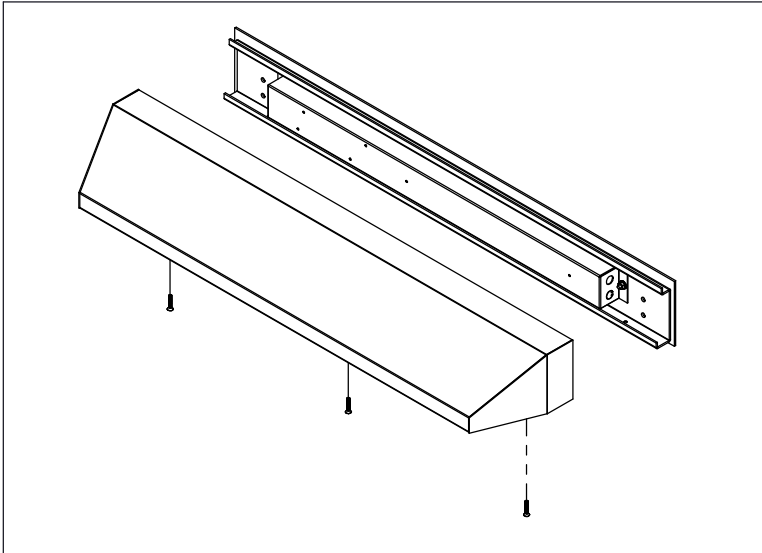

Figure 1
1. Remove Housing screws, then remove Mounting Plate from Housing (Fig. 1).